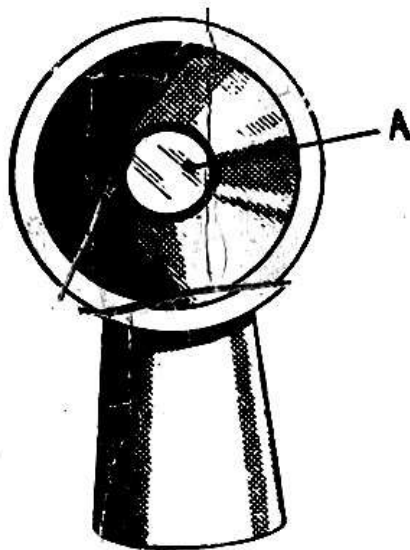
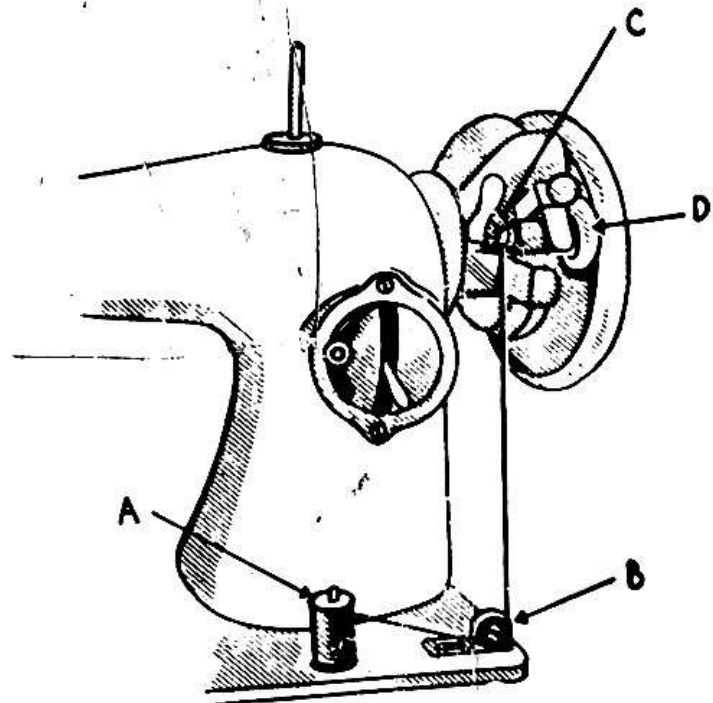

Fig. 3
Fig. 4
Loosen the **BALANCE-WHEEL-STOP-MOTION-SCREW** Fig 3 (A) toward you, allowing the balance wheel to run free; place spool of thread on spool pin Fig 4 (A) at the foot of the machine. Pass the thread through tension-bracket Fig. 4 (B) and up to the thread pressing lever Fig 4 (C). Wind thread from inside outwards several times around bobbin, which had been placed on the left end pin of the rubber ring Fig 4 (D). Be sure that the bobbin is pressed to the end of the spindle. Press down the bobbin and bobbin winder latch will drop down and hold the bobbin winder-ring against the balance wheel. Then operate the machine like by sewing.